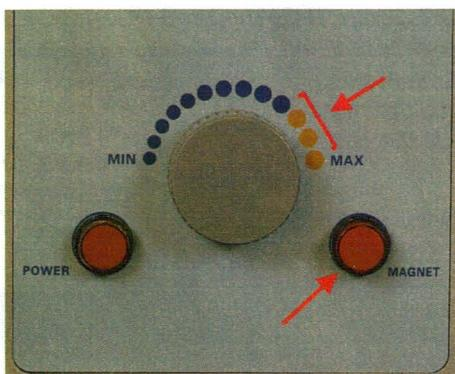

Figure 10
- Turn the potentiometer on the magnet power supply all the way counterclockwise, then press the “MAGNET” button (Figure 10)
Note: Do not run the magnet with the potentiometer in the yellow zone (Figure 10) for long periods of time to avoid overheating the magnet coils.